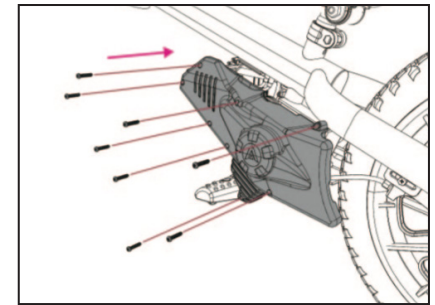

FIGURE 11
4. Reinstall the left side cover and tighten the screws. [Figure 11]